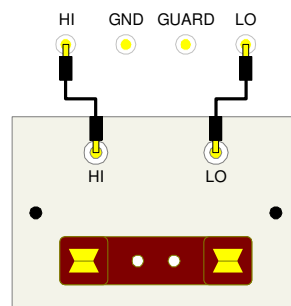

Figure 2-4: Miniature Banana Cables
- Connect the miniature banana cables (as shown in Figure 2-4).